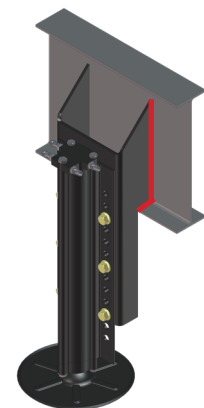

Fig. 10
11. By implementing a 1/4" weld bead, fully weld the bracket to the I-Beam from top to bottom on both sides of the bracket (Fig.10). Make sure to avoid any hoses or wiring that may be in the welding area.